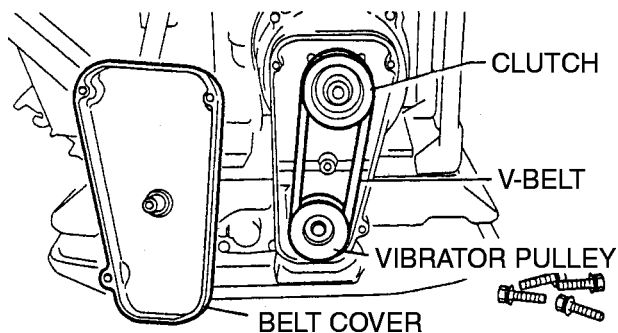

Figure 26. V-Belt Check
1. After 200 hours of operation, remove the belt cover to check the V-belt tension (Figure 26). Tension is proper if the belt bends about 10 mm when depressed strongly with finger between shafts. Loose or worn V-belts reduces power transmission efficiency, causing weak compaction and reduces the life of the belt itself.